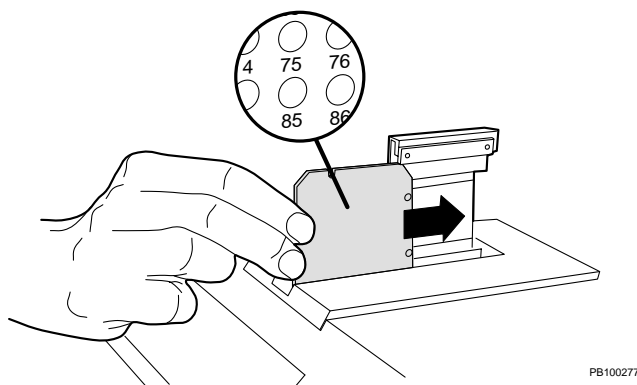

Figure 3-7 Loading the Sample Plate in a Voyager-DE STR
3. Slide the sample plate into the holder from the front until it snaps into place (Figure 3-7). The ball bearings on the holder snap into the plate.